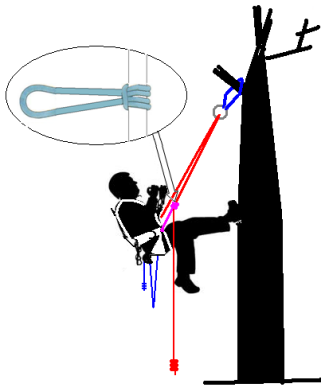

Fig 1
- 1 pass kernmental tree lanyard in anchoring resistant 1t (fig 1)